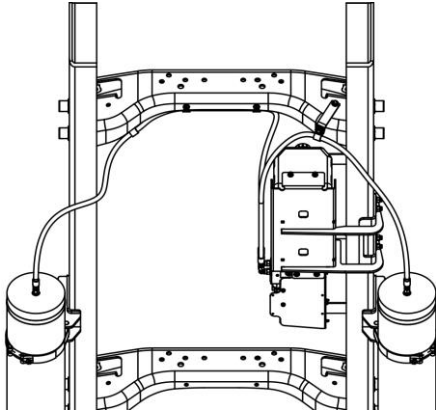

Figure 26. Driver side -4 Hose routing.
14. Route the Left Hand (Driver side) -4 (1/4") hydraulic hose to the Power Module as shown in Figure 26. Use hose clamps and bracket to secure the hose from movement or chafing.